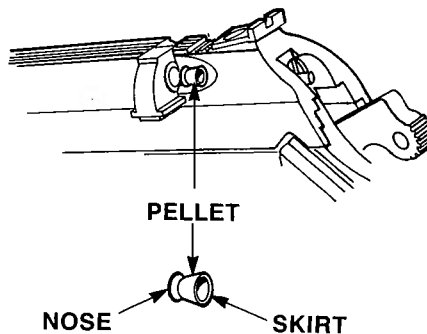

FIG. 6
- Place pellet, nose first, into pellet loader. (Fig. 6) To avoid jams, make sure pellet skirt is flush with the back of the loader.